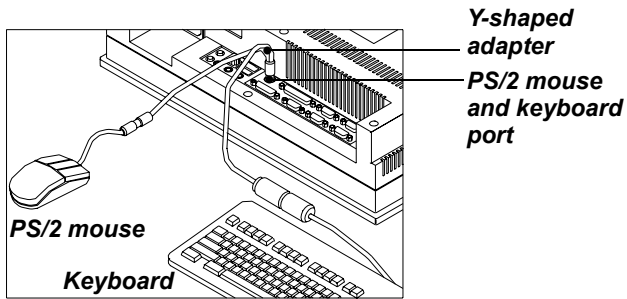
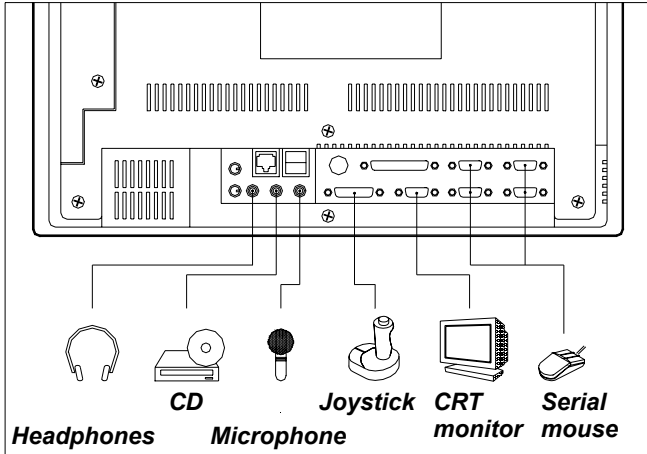

Figure 2.6: Connecting the keyboard and mouse
Figure 3.4: I/O interface (excluding COM ports)
1. Connect the Y-shaped adapter to the PS/2 mouse and keyboard port on the I/O section of the panel PC. (See Fig. 2-6.)
2. Connect the PS/2 mouse and keyboard to the Y-shaped adapter. (See Fig. 2-6.)
2. Connect the Y-shaped adapter to the PS/2 mouse and keyboard port on the rear bottom side of the rear cover. (See Fig. 3-4 and Fig. 2-6.)
2. Attach the interface cable of the serial device to the panel PC's serial port. (See Fig. 3-4.) If necessary, attach the other end of the interface cable to your serial device. Fasten any retaining screws.
2. Connect the external monitor to the system. (See Fig. 3-4.)
The audio interface includes three jacks: microphone in, line out and line in. (See Fig. 3-4.) Their functions are:
1. Connect the audio device to the system. (See Fig. 3-4.)